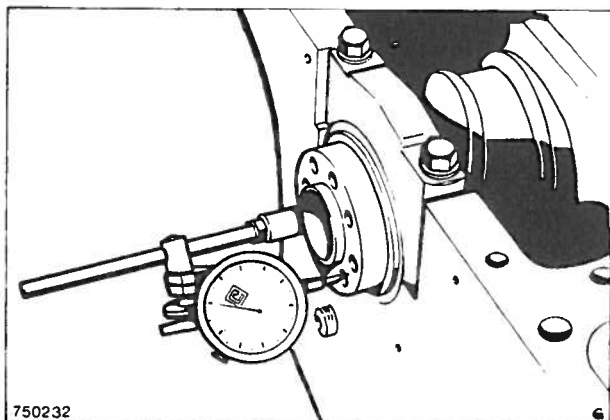

Fig. 27 Checking crankshaft end float
8. Using a dial indicator, check that the crankshaft end-float is within specifications – see Fig. 27. If not, fit new or oversized thrust washers.